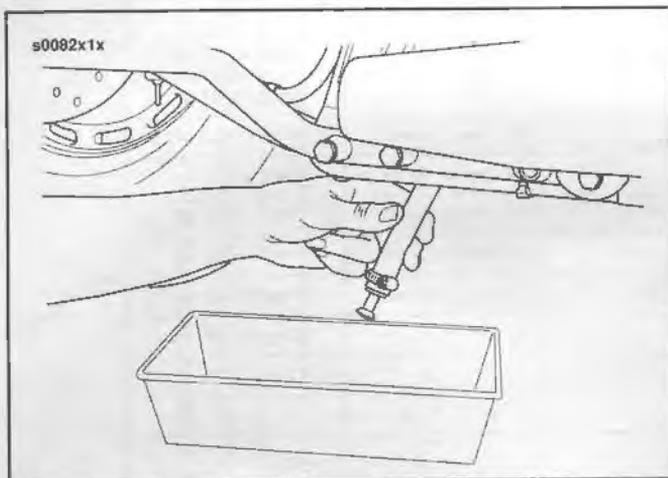

Figure 1-1. Draining Engine Oil
2. See Figure 1-1. Remove the oil tank drain plug from oil drain hose and allow oil to drain completely.